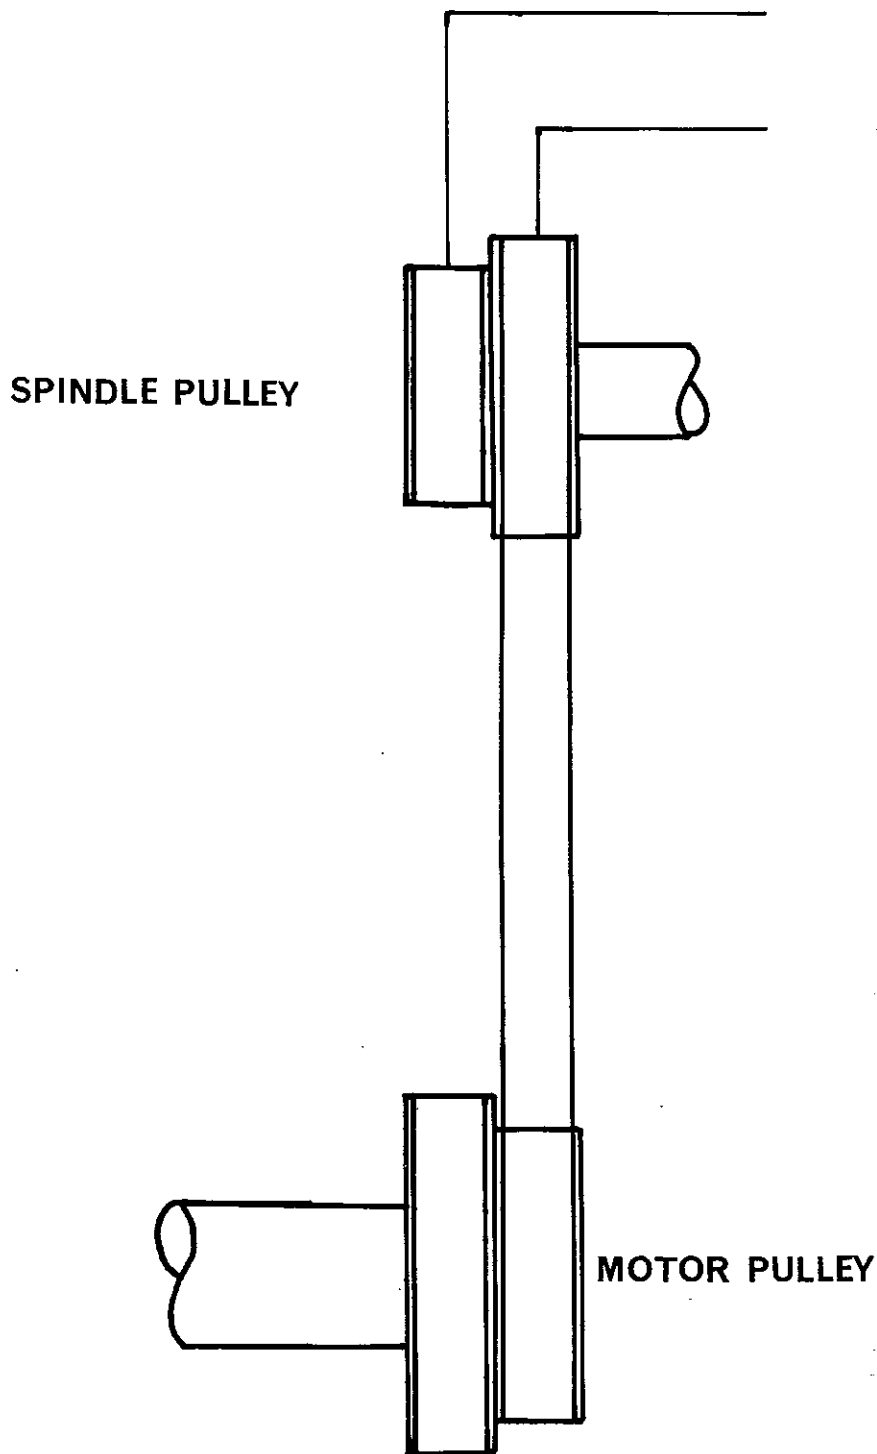

FIG. 33.
4. Change belt "C" to required pulley on spindle pulley and motor pulley. See pulley diagram FIG.33 for required spindle speed.